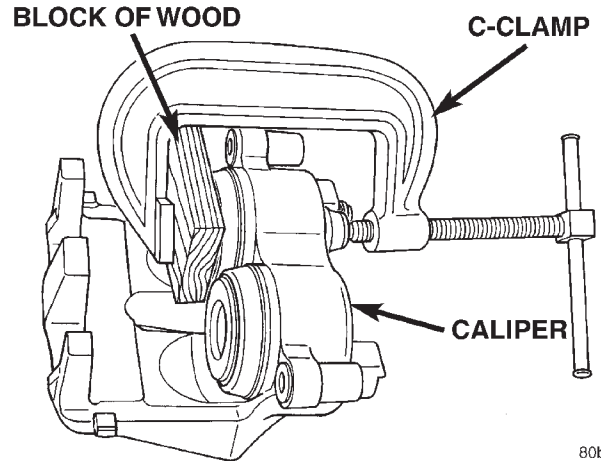

Fig. 63 C-Clamp One Piston
- (1) Drain the brake fluid from caliper.
- (2) C-clamp a block of wood over one piston (Fig. 63).